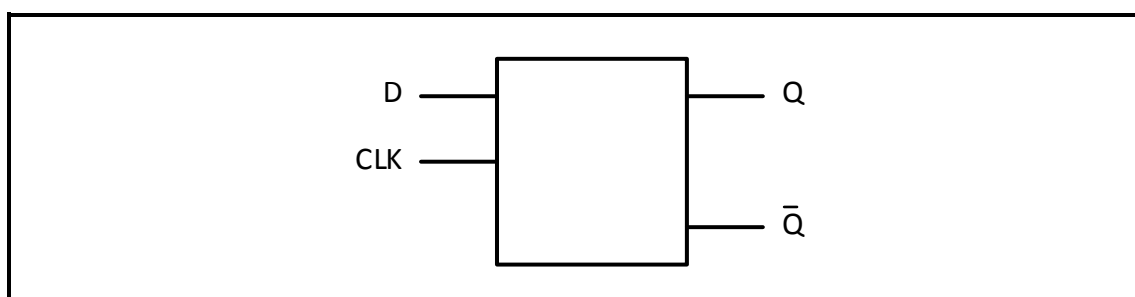

FIGURE 5.4
- 5.4 FIGURE 5.4 below represents the logic symbol of a D-type flip-flop.